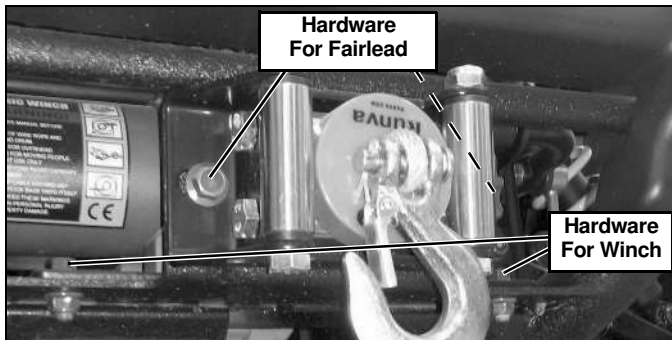

Figure 3
4. If vehicle is equipped with a winch, remove the hardware holding in the fairlead bracket and the front end of the winch to the frame. (See Figure 3.)